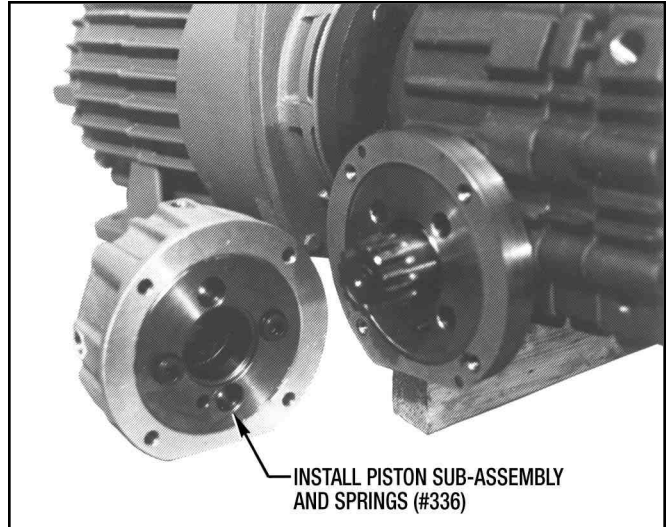

Figure 9.17 - Installing Brake Piston and Springs
4. Install Springs (#336) into Piston (#303). (See Figure 9.17)